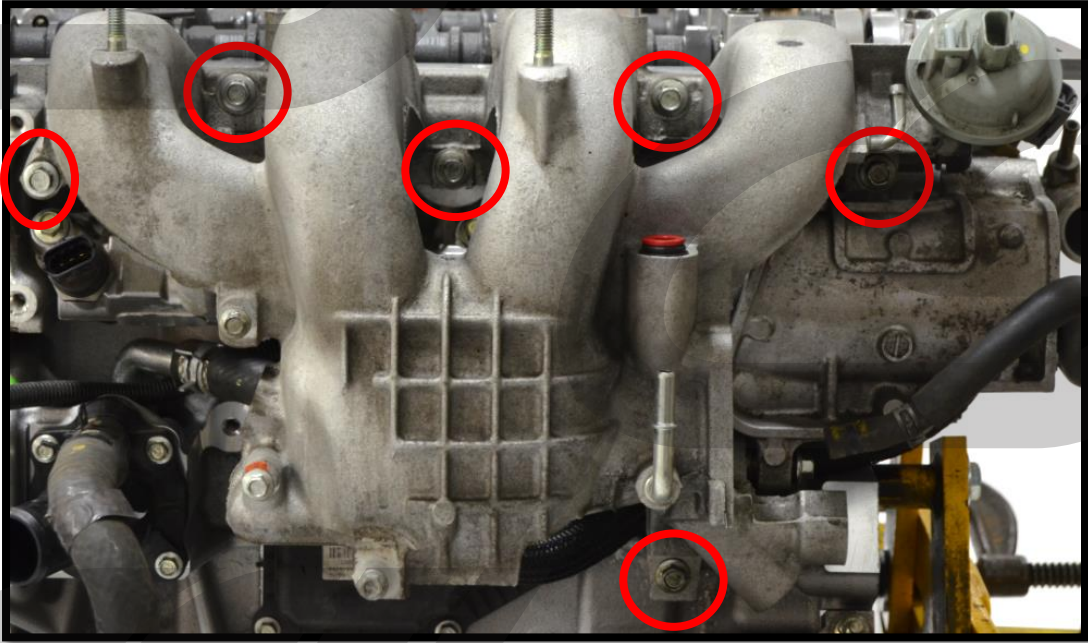

Figure 3b
- c) Remove all bolts that hold the intake manifold to the head of the vehicle. Use a 10mm socket and 4" extension on a ratchet to reach the six bolts **circled in red** in **Figure 3b**.